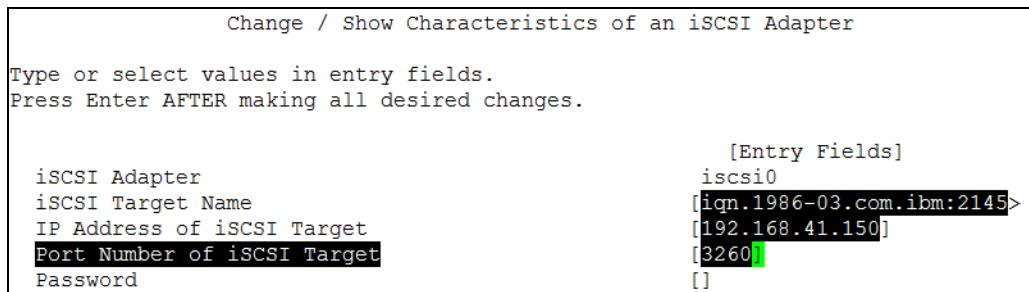

Figure 7-11 Change / Show Characteristics of an iSCSI adapter
6. Enter only one of the available iSCSI target names, IP addresses, and port numbers of the IBM Storwize storage system, as shown in Figure 7-11. All this information is in the IBM Storwize network ports' configuration.